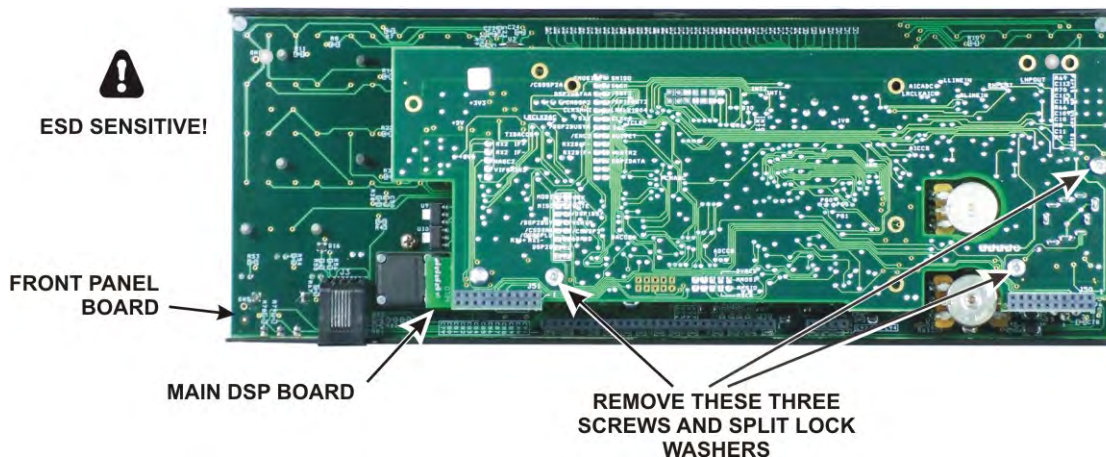

Figure 11. Removing Main DSP Board.
Remove the three screws and split lock washers shown in Figure 11.
- Replace the three 4-40 1/4" (6.4 mm) zinc pan head screws you removed earlier with a split lock washer under each screw head (see Figure 11 on page 14).